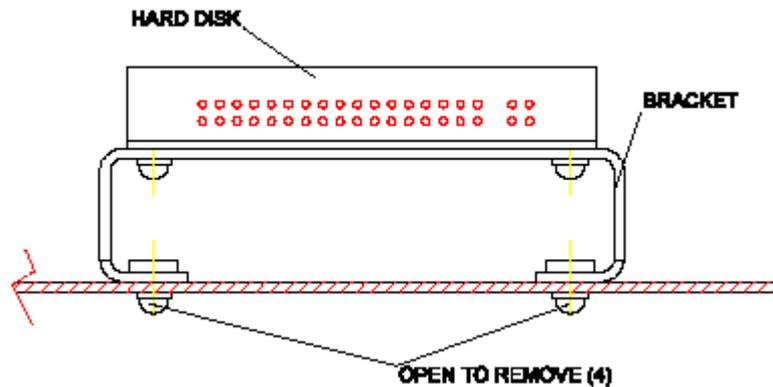

Figure 4-12: Hard Disk and bracket
3. Locate these screws at the outside bottom of the case" opposite the four corners of the hard disk bracket (in Figure 4-12:).